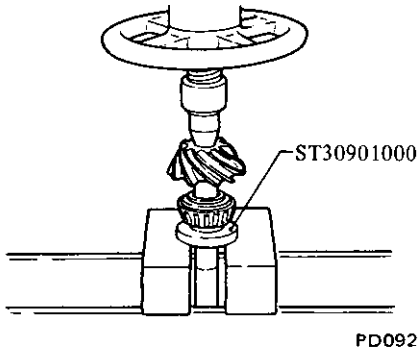

Fig. PD-26 Pressing rear bearing inner race
4. Fit determined pinion height adjusting washer in drive pinion, and press fit rear bearing inner race in it using Base ST30901000. See Figure PD-26.